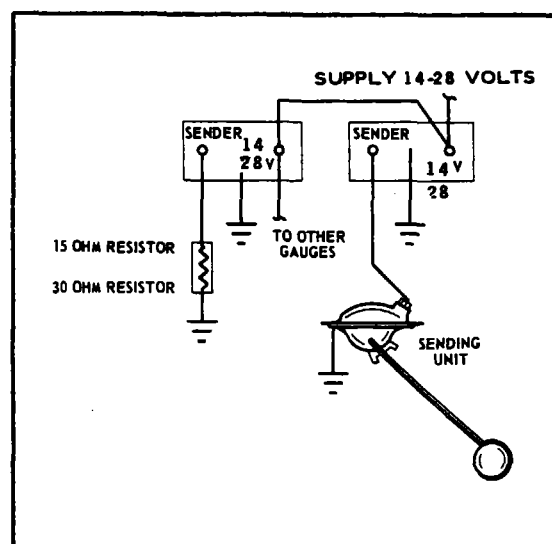

Figure 9-13. Checking Fuel Gauges Schematic
c. Wiring Check: (Refer to Figure 9-13.)
- (b) Connect the sender directly to the gauge being checked using No. 16 or larger wire. (Refer to Figure 9-13.)
- (a) Connect a 15 ohm resistor to the sender unit of the gauge being checked. (Refer to Figure 9-13.)